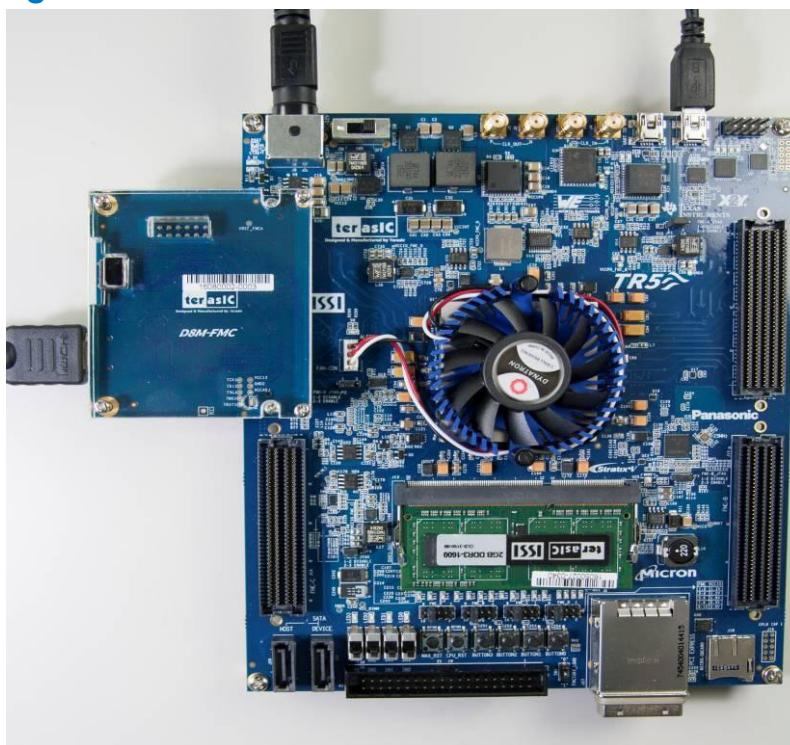

Figure 4-2 TR5 demo hardware setting up
- As shown in Figure 4-2
- Plug D8M-FMC onto TR5 FMC_D(J10), connect HDMI monitor to HDMI port see Figure 4-2.